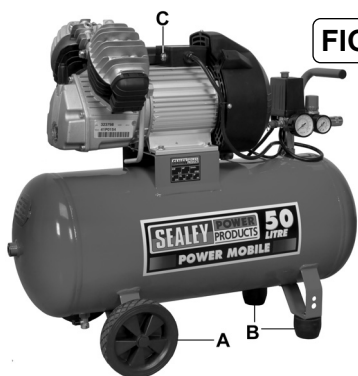

FIG.1
- 4.4. Fit the main wheels (fig.1.A) and two rubber feet (fig.1.B) to the main frame using the nuts, bolts and washers supplied.
- 5.3.8. The compressor is fitted with an overload switch, and a reset trip button located in the connection box on top of the motor (see fig.1.C & fig.6). Should the overload switch activate, switch the compressor off and leave for a few minutes before pressing the trip reset button to reset, and then re-start the compressor. For possible causes of overload switch activation and remedies, see Section 6.